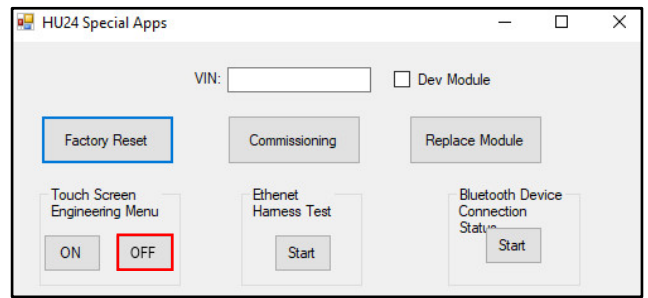

Figure 8
5. Select "OFF" to lock the Touch Screen Engineering Menu (refer to Figure 8).